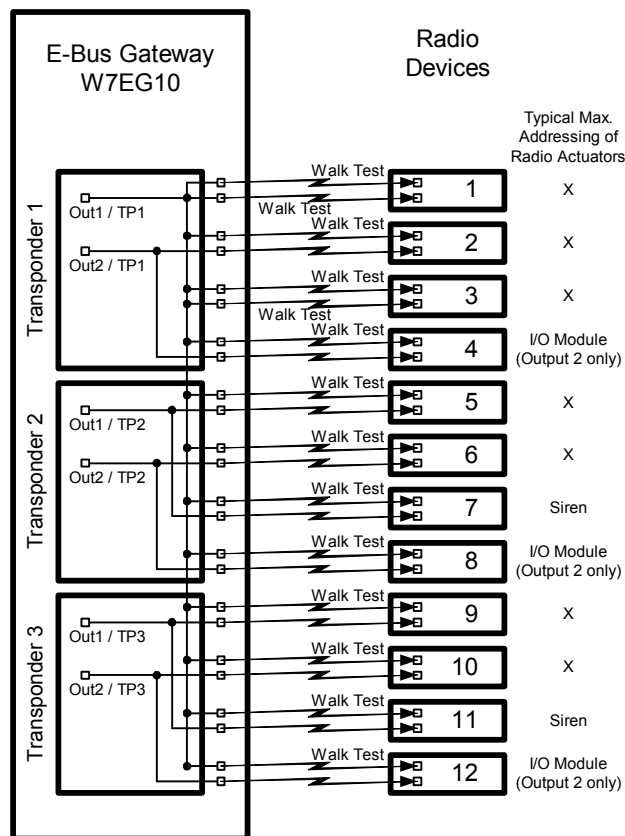

Figure 9: W7EG20 output mapping
## 4. Output mapping (fig. 9)
The output 2 of the other radio devices can be activated by the outputs of the replaced transponders according to the output mapping (see fig. 9).
W7EG20 output 1 of the first replaced transponder must be programmed to "walk test" in the control panel. For the same purpose output 1 of the first replaced transponder is mapped in the W7EG20 to logical output 1 of each radio device (see fig. 9). Because of the output mapping of the W7EG20 output 1 of the first replaced transponder is also mapped to logical output 2 of the radio devices number 1 and 3.
The SiRoute™ radio devices (radio detectors/actuators) use their logical output 2 for an output function. The logical output 2 of the SiRoute™ radio devices can be activated by the outputs of the replaced transponders according to the output mapping (see fig. 9).
Because of the output mapping (see fig. 9) some restrictions have to be considered when enrolling (addressing) radio actuators:
- Each output of a replaced transponder activates in parallel the logical output 2 of two radio devices (address 2 and 4, 5 and 7, 6 and 8, 9 and 11, 10 and 12). Therefore only one of these two addresses can be a radio actuator (siren or input/output module). Otherwise both radio actuators would be activated together. Because of these restrictions only 5 radio actuators can be used per W7EG20. Figure 9 shows a typical addressing of radio actuators with 3 input/output modules and 2 sirens. The radio devices marked with X cannot be radio actuators. Note that this is only an example out of many possible combinations. Additionally to these restrictions it is recommended to program radio outputs linked to a W7EG20 only to toggle triggering mode, not to pulse mode (below 10 seconds).